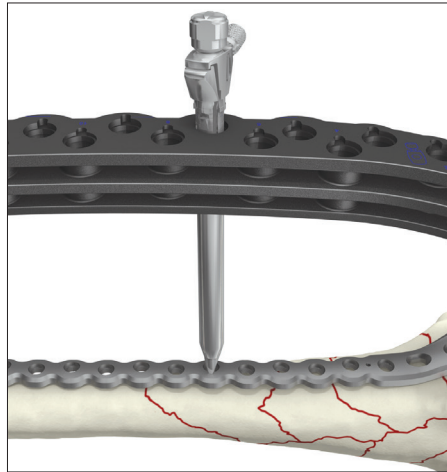
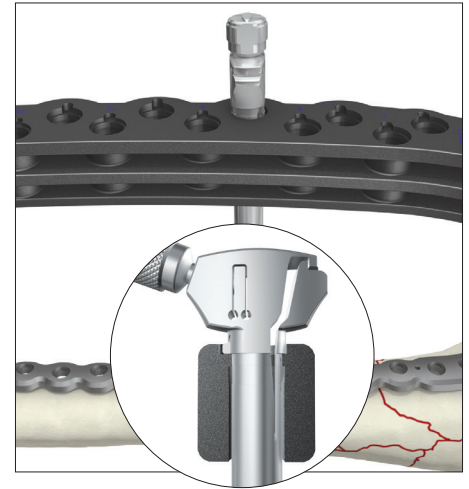
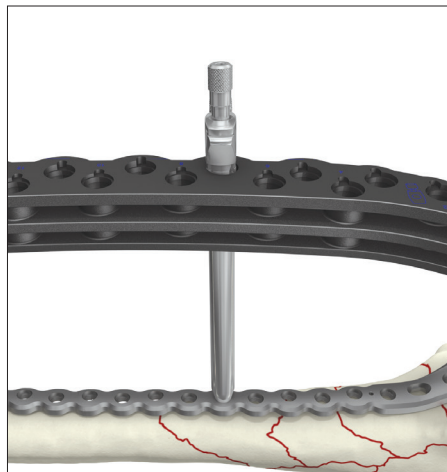
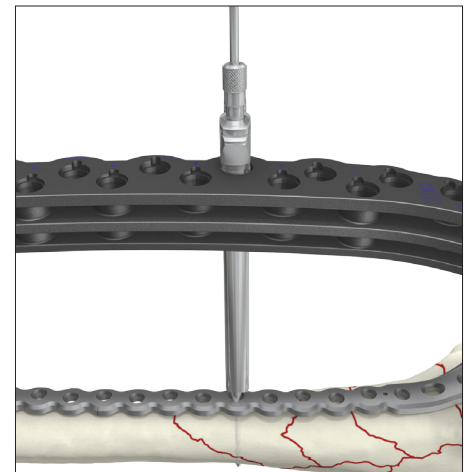

Fig. 23
Fig. 24
Fig. 25
Fig. 26
Mark the chosen shaft hole using the tissue protection sleeve and make a small incision. Insert the tissue protection sleeve (ref 703532) together with the trocar with sharp tip (ref 703525) until the tip is in contact with the plate (fig. 23). Push the tissue protection sleeve further until you hear a click, confirming that the sleeve has snapped into position (fig. 24). Remove the trocar with sharp tip and replace it with the Drill sleeve (ref 703535). Insert the trocar Ø3.2mm (ref 703536) and manipulate the assembly into the plate hole. Lock the drill sleeve with the sleeve fixation screw (ref 703591) and remove the trocar (fig. 25). The calibrated drill Ø3.2mm (ref 703542) is then used to drill the core hole for the Ø4.5mm cortical screw (fig. 26).